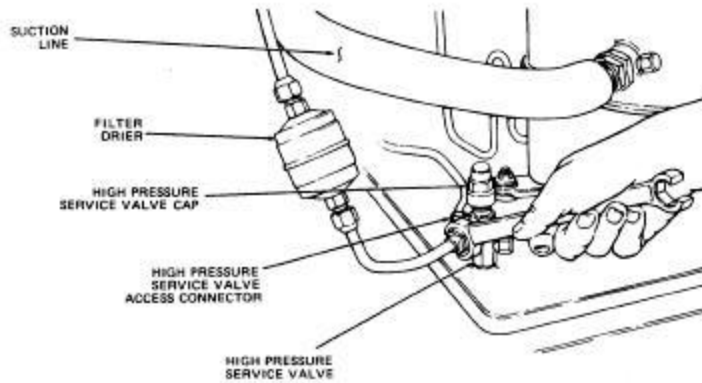

Figure 11-18. Disconnect High Pressure Line from Service Valve
- b. Disconnect the high pressure line from the service valve using a flare nut wrench ($25/32$ inch). Figure 11-18.